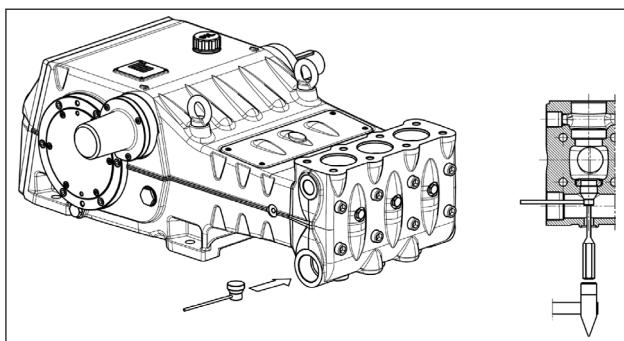

Fig. 113
If removing the suction valve unit proves to be particularly difficult (for example because of incrustations due to prolonged inactivity of the pump), use the extractor tool (code 27516200 (for LK36-LK40-LK45) or code 27516300 (for LK50-LK55-LK60)) (pos. ①, Fig. 113) as indicated.